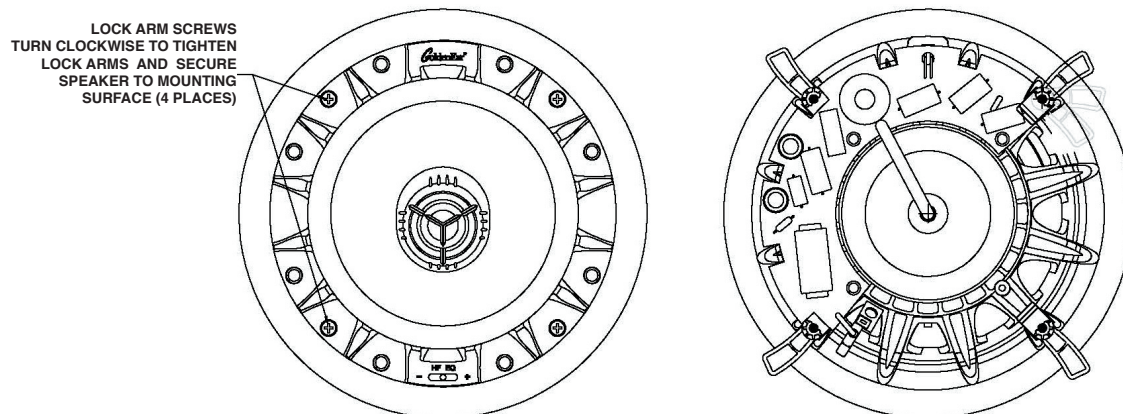

Figure 7
10. While holding in place, tighten the four lock arm screws with a screwdriver (Figure 7). This will rotate the lock arms and secure the speaker to the wall/ceiling. DO NOT OVERTIGHTEN the lock arm screws as this could damage the drywall. If you are using a power screwdriver or drill, set the torque to a value of no more than 7 in.-lb (8dN-m).